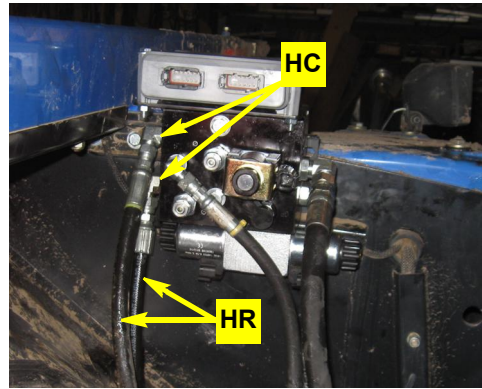

Figure 8a: Installed steering hoses at steering block
- a. Connect the straight end fittings of steering output hoses **HR** to the adapter fittings **HC** in the **A** and **B** ports on the hydraulic steering block (Figure 8a).